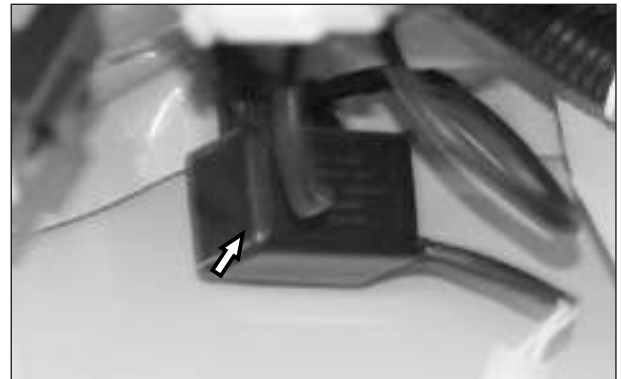

Fig. 6.22
- Electronic flasher unit is mounted under the dashboard as shown in (Fig. 6.22) Inspect the Electronic flasher unit for continuity with the multimeter.